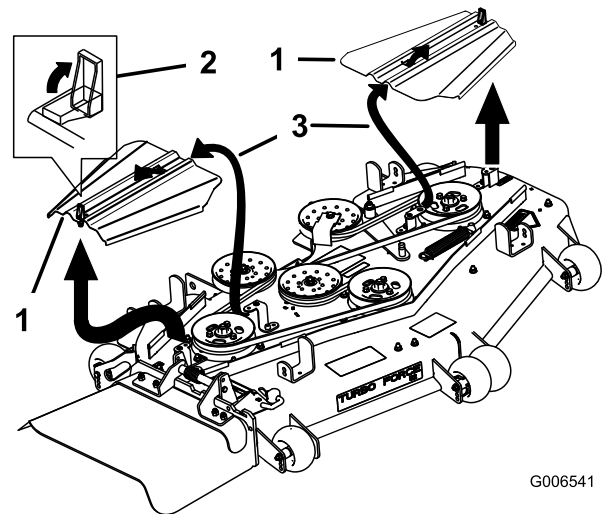

Figure 82
5. Remove the belt covers (Figure 82).